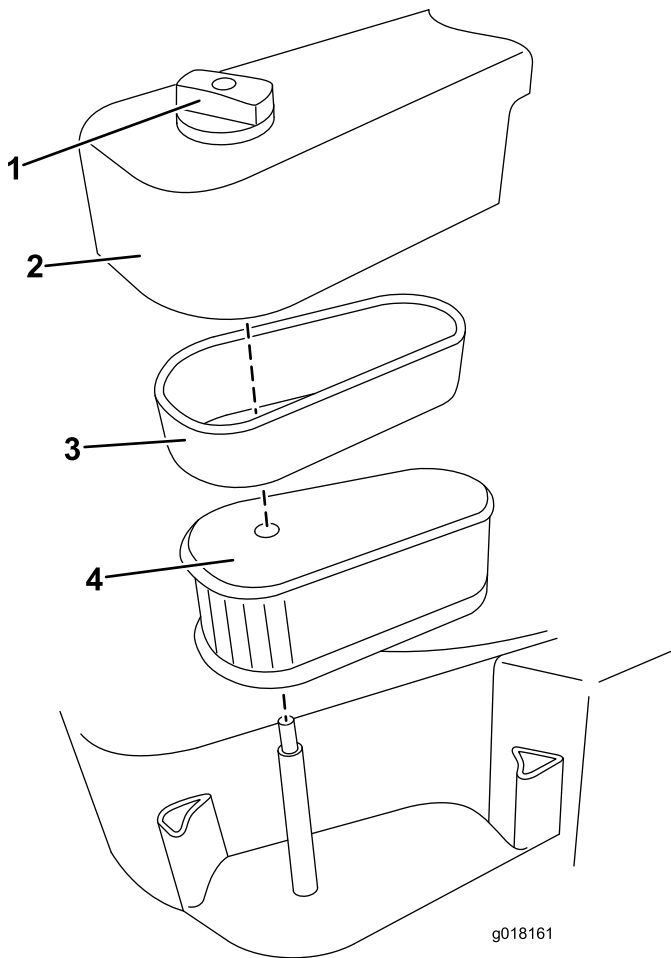

Figure 17
- Loosen the knob securing the air filter cover (Figure 17).
- Carefully remove the foam filter and the cartridge together, then separate the foam filter from the cartridge (Figure 17).
- Install the cover (Figure 17).